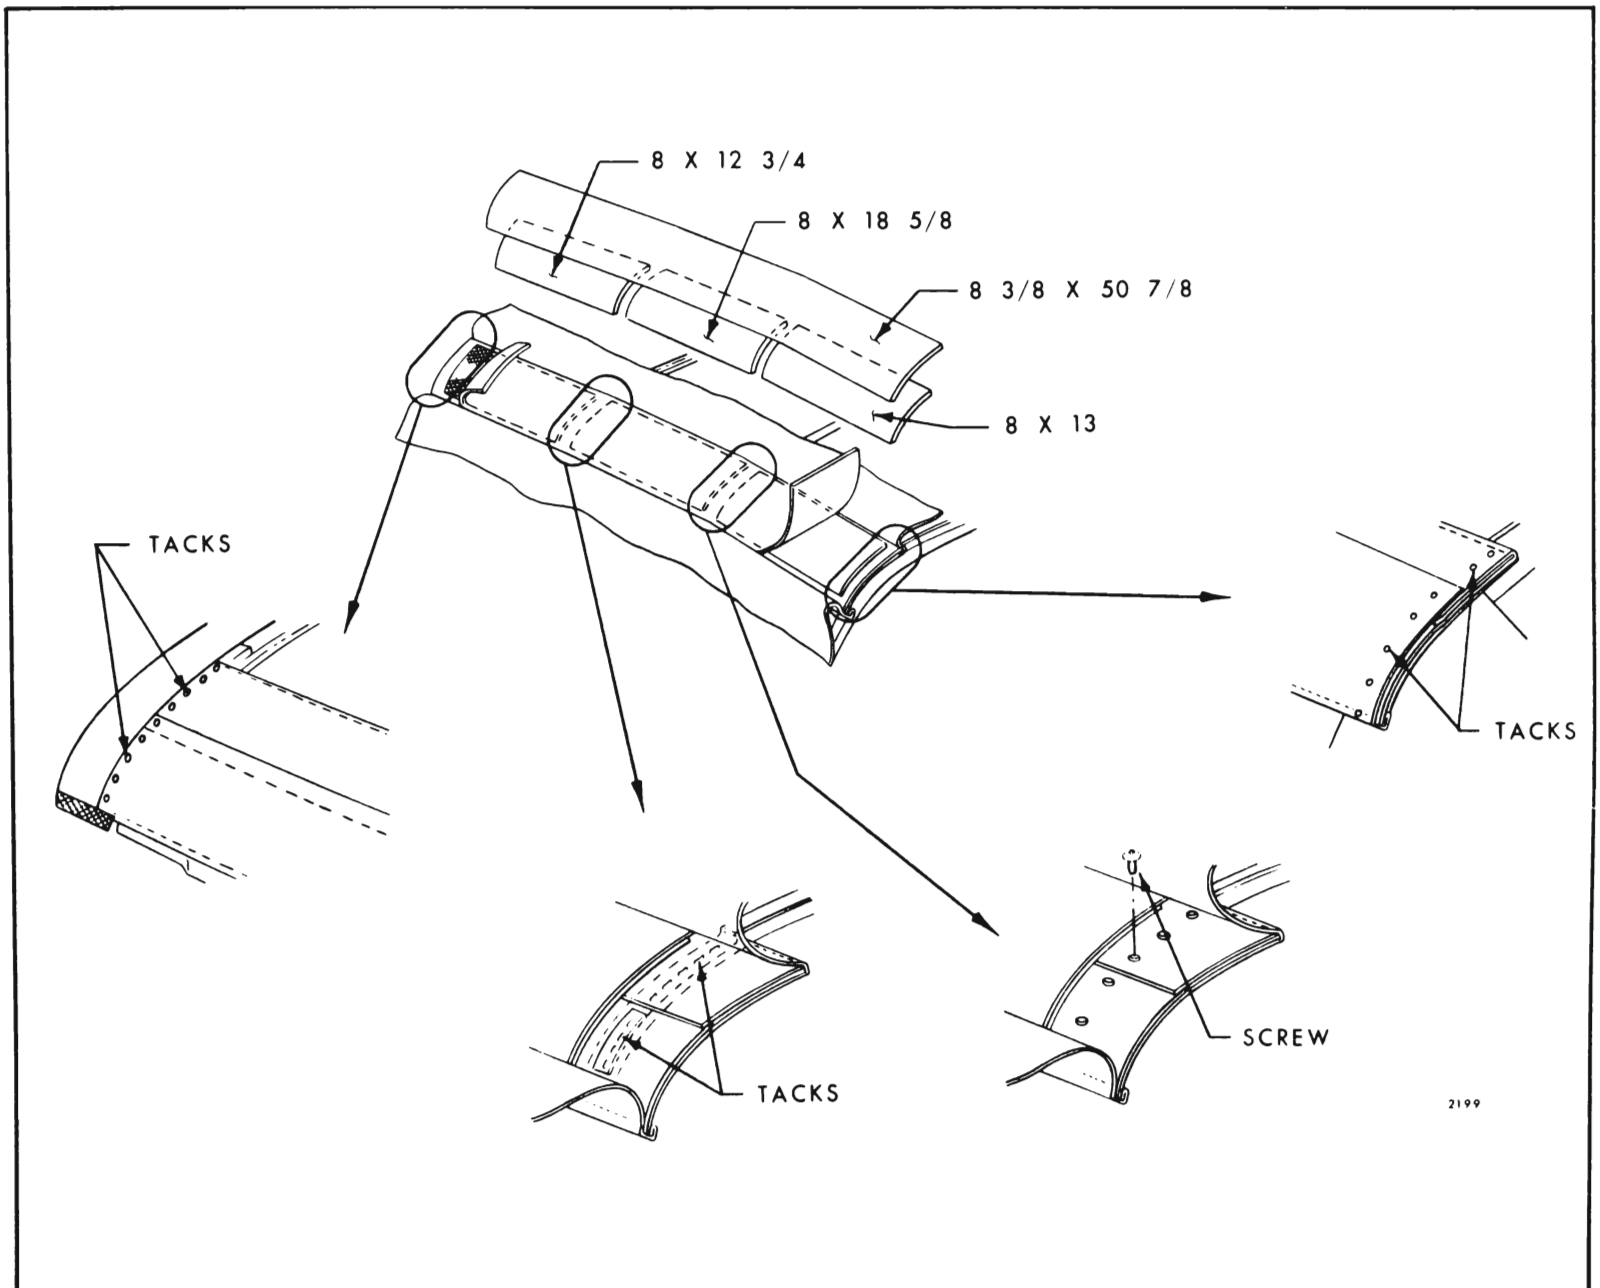
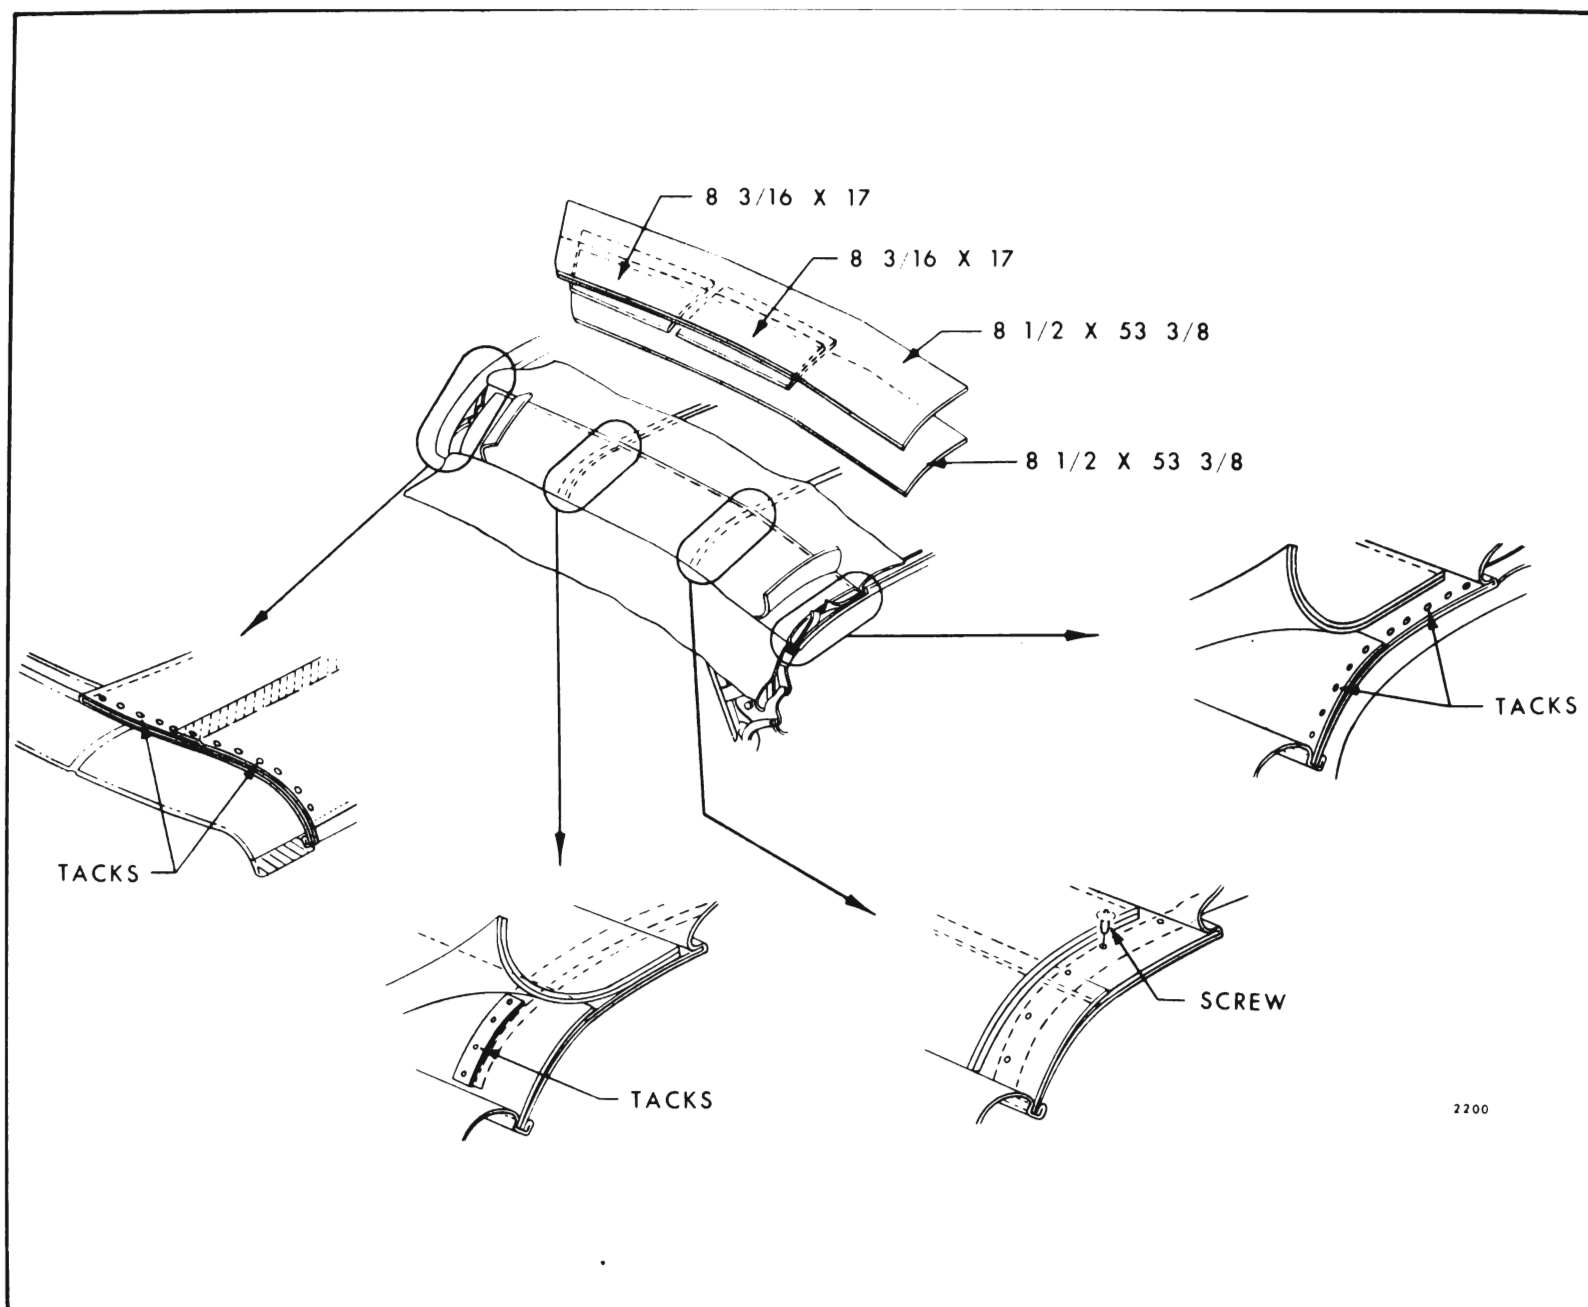
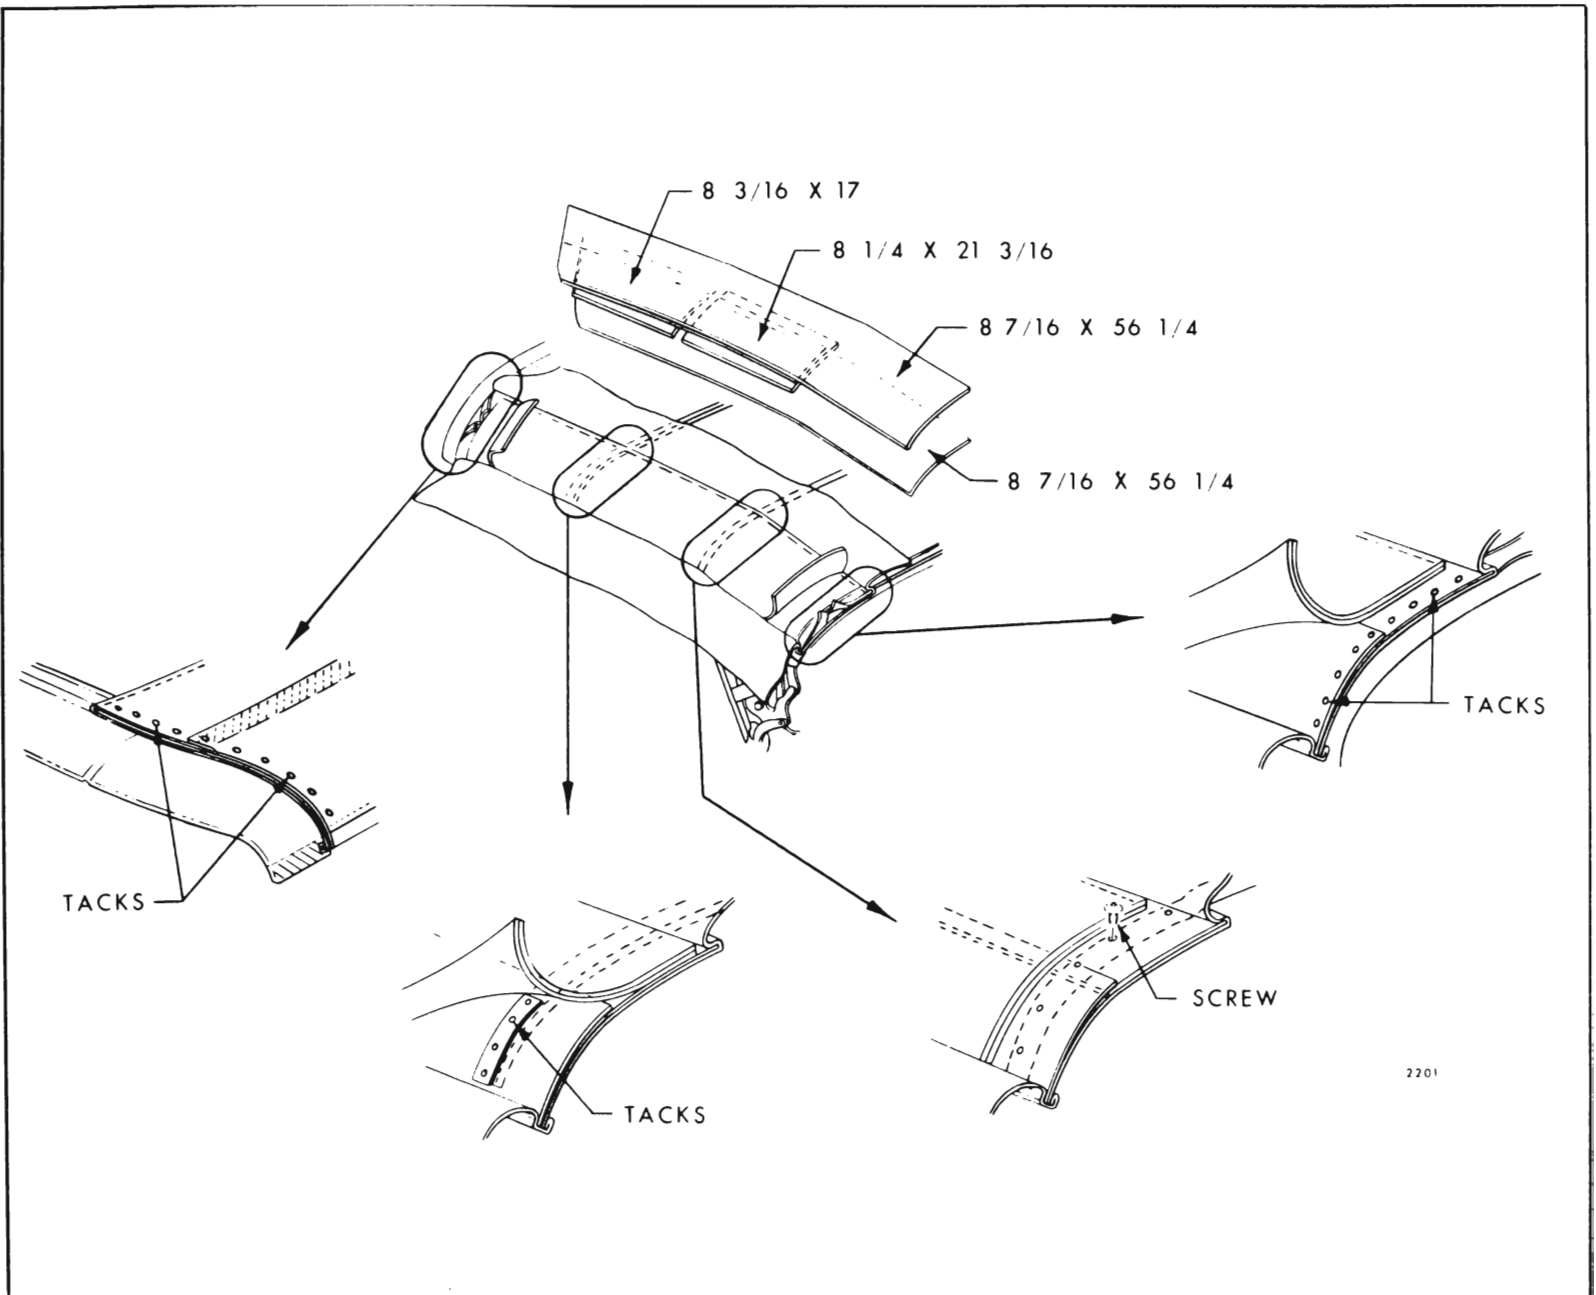
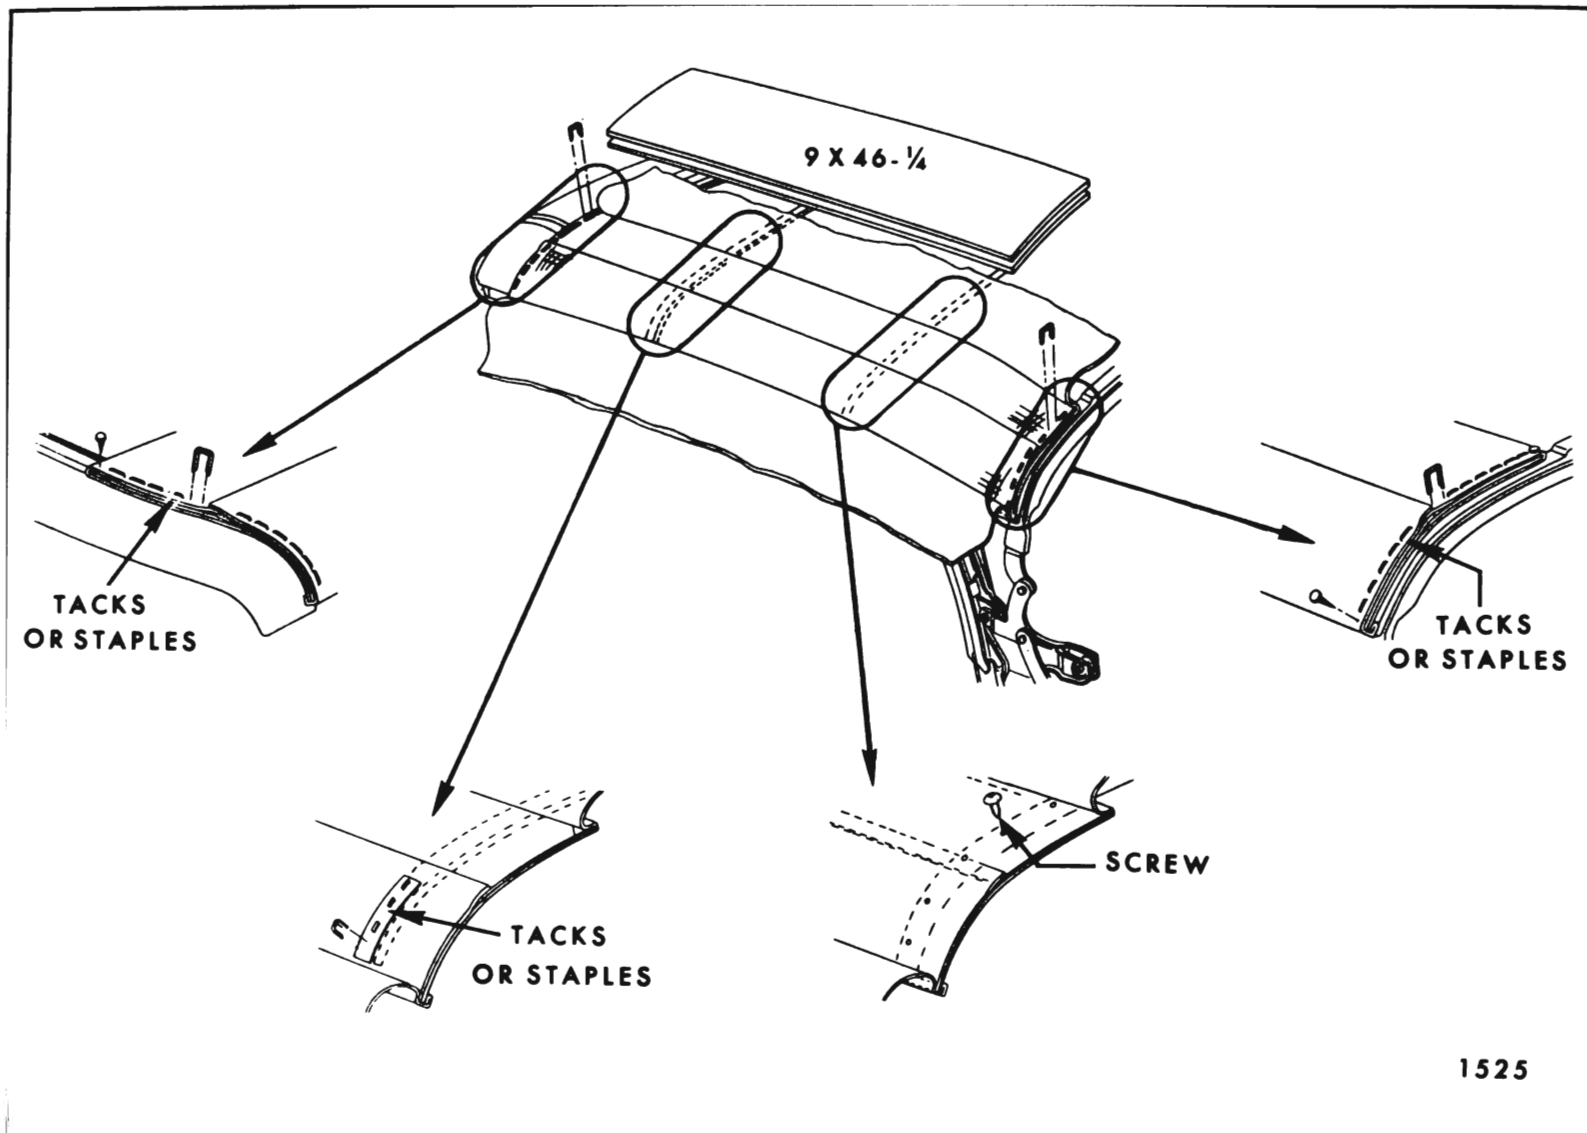

Fig. 6-13—"A" Body Side Stay Pad Installation
Fig. 6-14—"B" Body Side Stay Pad Installation
Fig. 6-15—"C" Body Side Stay Pad Installation
Fig. 6-16—"Z" Body Side Stay Pad Installation
2. Tack side stay pads in conventional manner to rear roof bow and stay tack pads to front roof rail. Make sure inboard edge of pad is properly aligned within depressions in bow and rail. Stay tack pad to front bow. Install pad to center bow with screws. Make sure inboard edge of pad is properly aligned within depression in bow. Install stay pad wadding in conventional manner using an approved trim cement. (Fig. 6-13 for "A" Body, Fig. 6-14 for "B" Body, Fig. 6-15 for "C" Body and Fig. 6-16 for "Z" Body.)
3. Trim salvage end of side stay pads just forward of rear rolled edge of rear roof bow (Fig. 6-13 for "A" Body, Fig. 6-14 for "B" Body, Fig. 6-15 for "C" Body and Fig. 6-16 for "Z" Body).